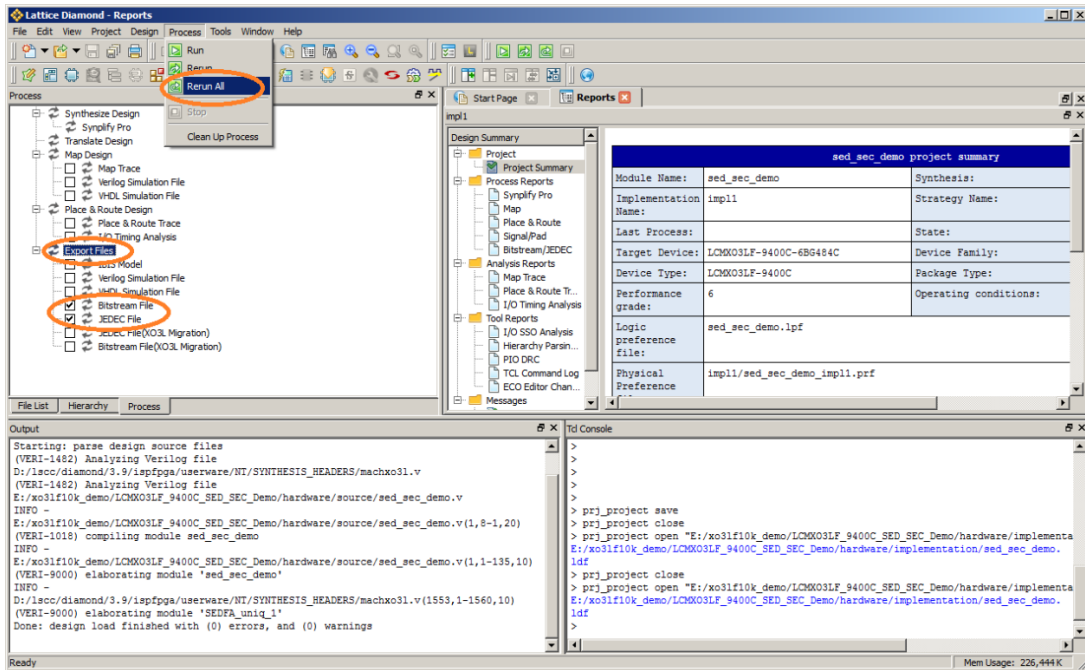

Figure 7.4. Generating the Bitstream
- In the Process view, under the Export Files process select the **Bitstream File** and **JEDEC File** checkboxes as shown in **Figure 7.4**.